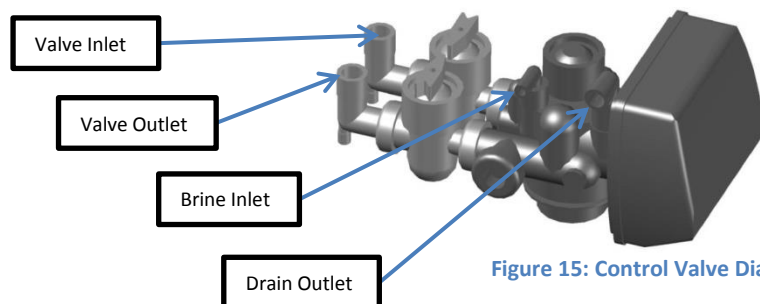

Figure 15: Control Valve Diagram
- a. Pipe or tube a line from each Control Valve Drain (Figure 15) to the drain. Refer to section 9 for the proper sized drain line. Put the bypass control valve into bypass operation shown in figure 27.